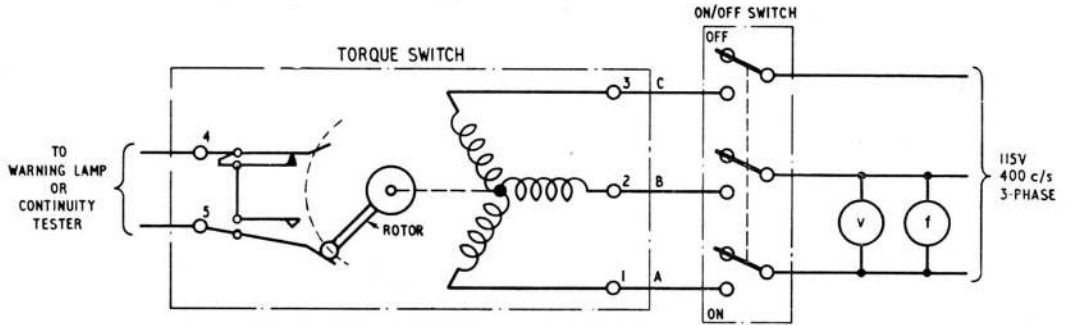

Fig. 4. Test circuit diagram
26. Connect the switch and meters to the inverter as shown in fig. 4, and the inverter to a 28-volt d.c. supply. ◀ Care should be taken to ensure that the test rig is not subject to vibration during testing. It is important that the ambient temperature should be  $20 \pm 5$  deg. C; at temperatures outside these limits, the operating characteristics of the switch will vary from those given below. ▶